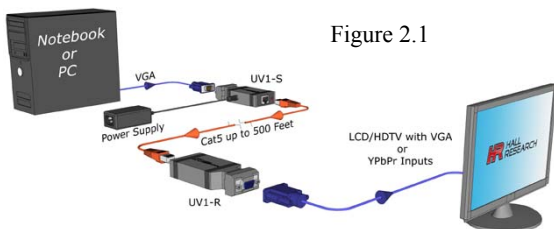

Figure 2.1
1. Connect the VGA in (HD-15) connector of the UV1-Sender to the computer's video port using the supplied cable (see figure 2.1).